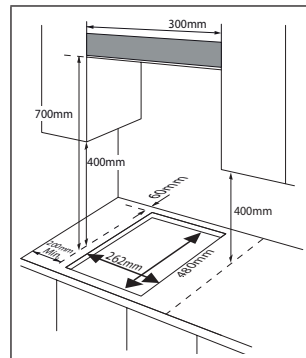

Fig. 3
• The appliance is installed into standard kitchen furniture designed for built-in appliances or in appropriately modified furniture with dimensions according to Fig. 3.